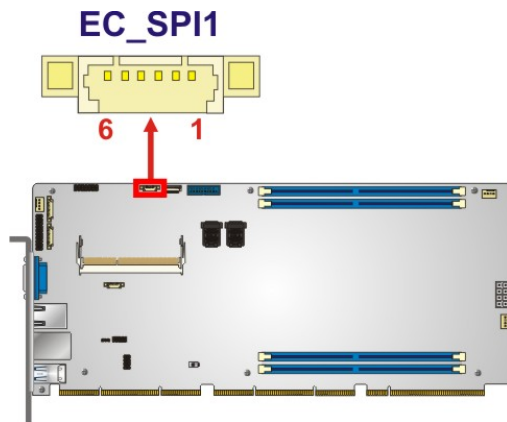

Figure 3-14: SPI EC Flash Connector Location
- CN Location:** See **Figure 3-14**